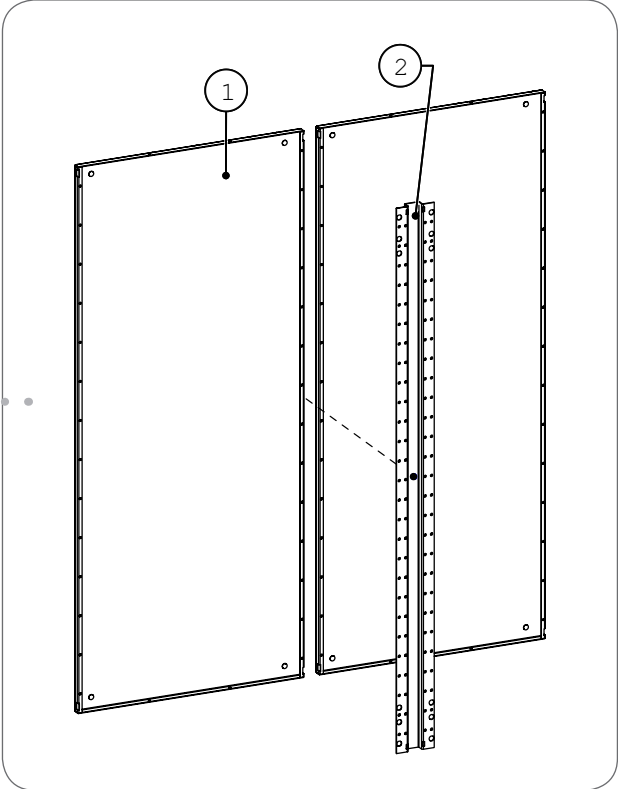

Fig 8.2.1 *Joining back profile to back plates.*
Basic enclosure assembly is shown in following figures. Multifield enclosure assembly are started by joining back profile (2) to back plates (1) in Fig. 8.2.1.